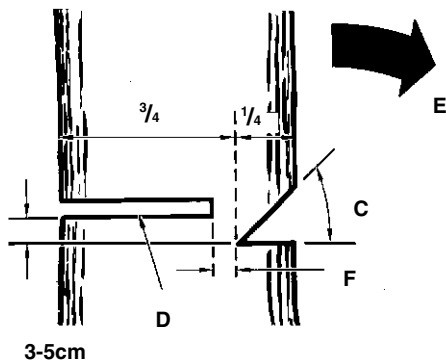

Fig.18
<p>Make the felling cut (D) from the other side of the tree and 1.5" - 2.0" (3-5cm) above the edge of the notch (C) (Figure 18).</p>